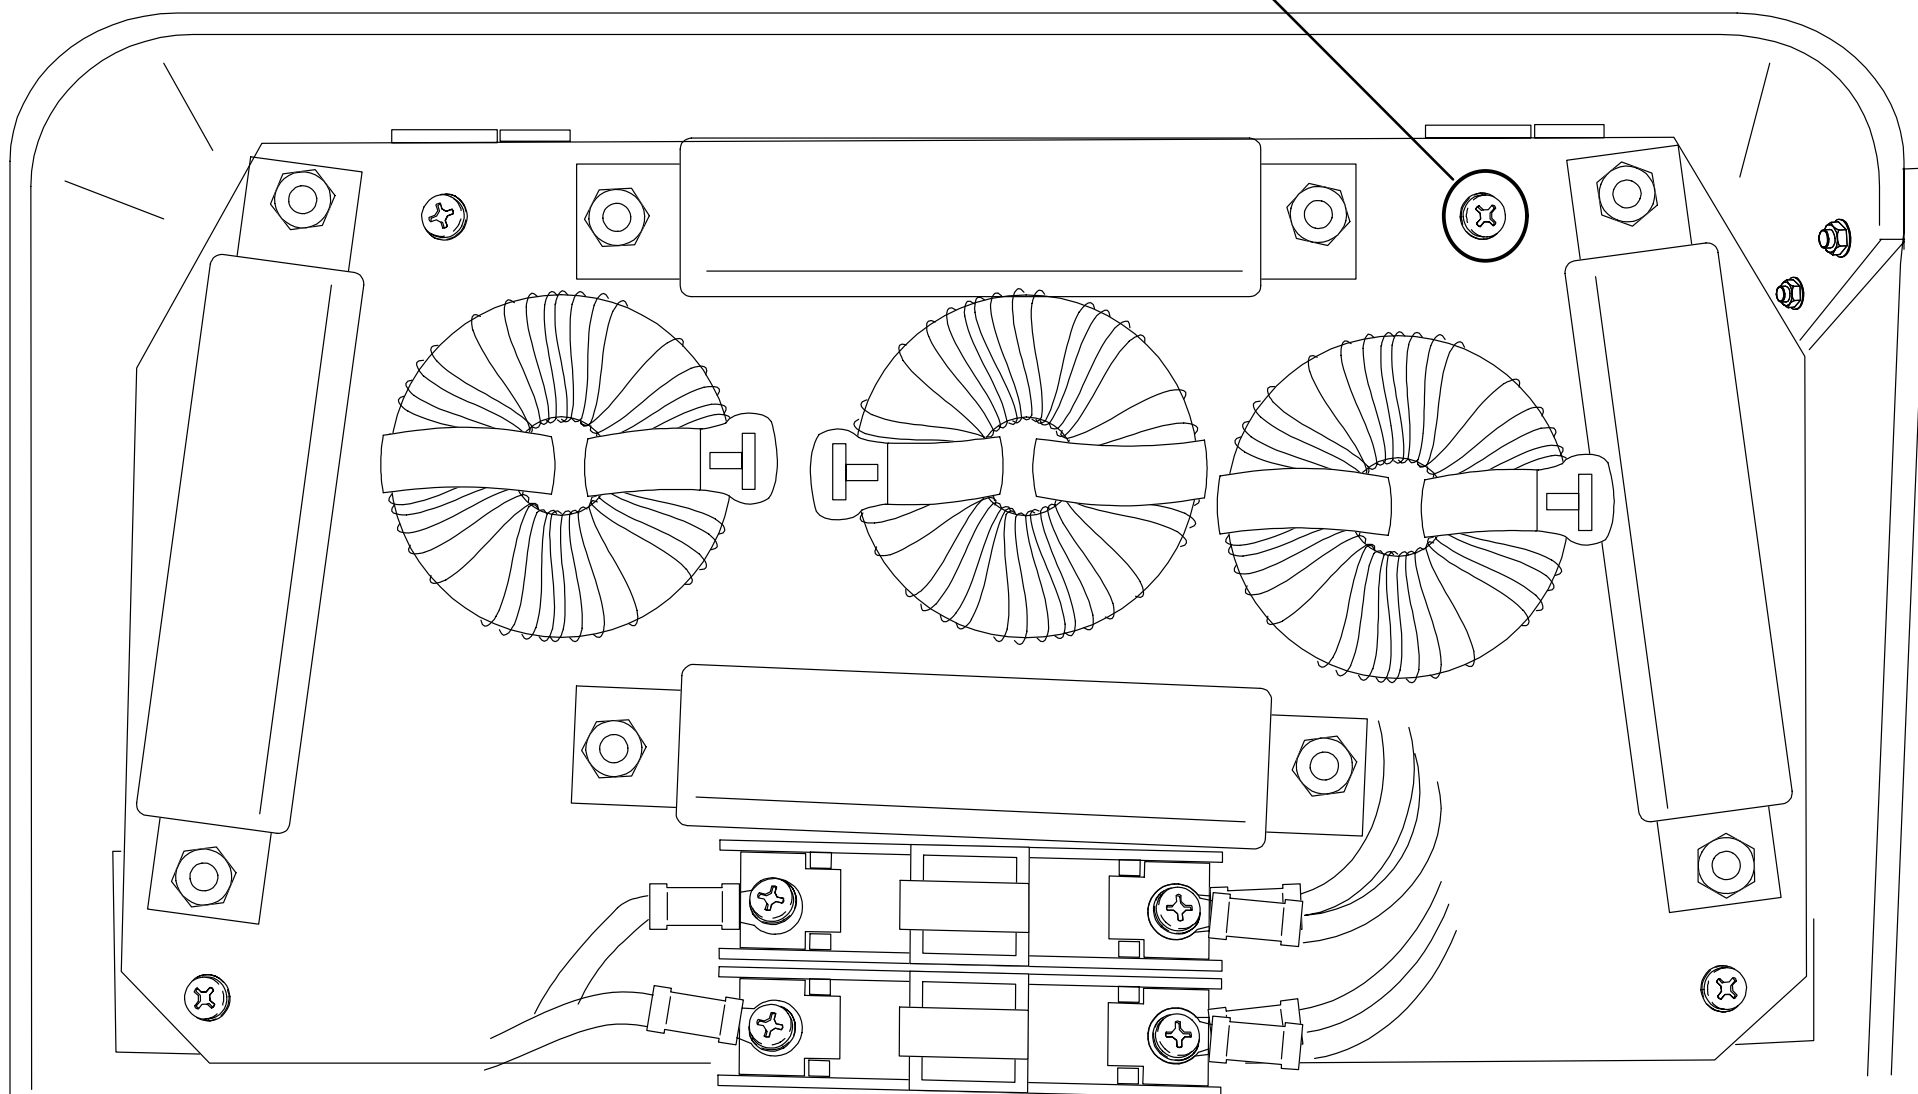

FIGURE 274 CHOKE BOARD ASSEMBLY
7. Remove the four choke board assembly mounting screws and lift up the choke board assembly. Refer to Figure 274. With the choke board assembly lifted out of the way, remove the anderson connector from the side of the inverter chassis.